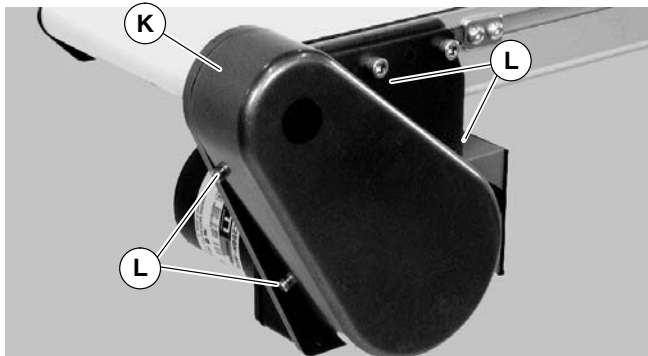

Figure 14
1. Remove four (4) screws (L of Figure 14) and remove cover (K).
4. Install cover (K of Figure 14) with four (4) screws (L). Tighten screws to 35 in-lb (4 Nm).
6. Install cover (K of Figure 14) with four screws (L). Tighten screws to 4 Nm.
3. Remove four screws (L of Figure 14) and remove cover (K).